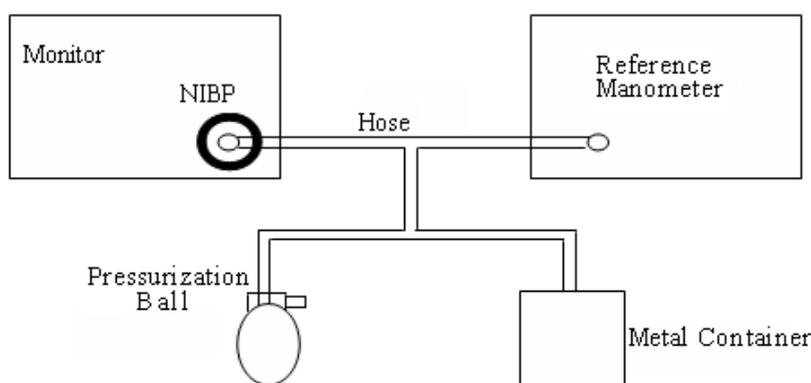

Figure 6.19 NIBP Calibration Diagram
2. Wrap the cuff onto a column of proper size, as referred to Figure 6.19